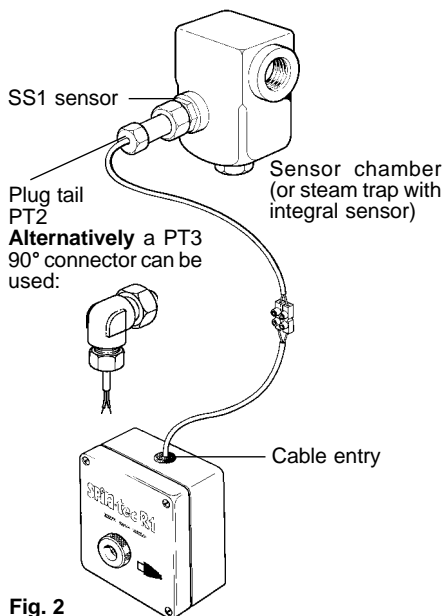

Fig. 2
3. Connect the plug tail (PT2 or PT3) into the pipeline sensor. Extend the 1.25 m (4.1 ft) of cable provided by connecting a suitable length of twin core cable. The type of cable is not critical - standard equipment wire with 20 gauge conductors or 7/0.2 multi-strand wire is suitable. The connector type is not critical, but it should be made waterproof if exposed to moisture. The extension cable should be passed through the cable entry (Figure 2).